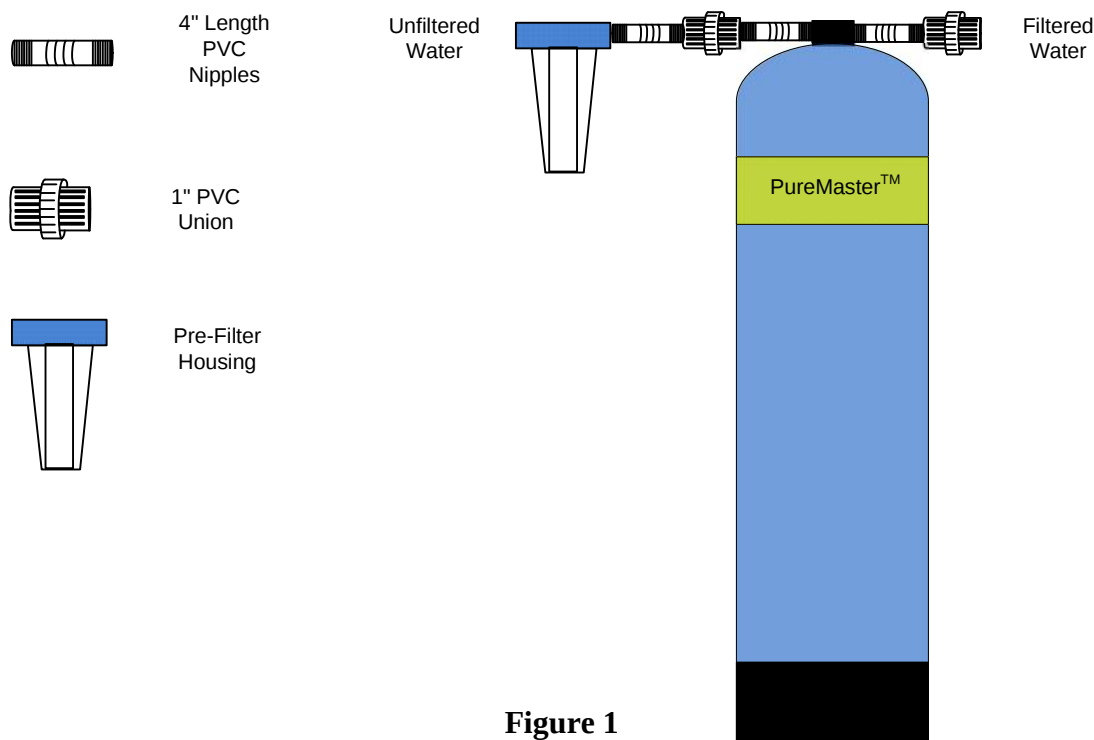

Figure 1
2. Complete the outlet connections (Figure 1). Slowly turn on a nearby faucet and flush the unit for an additional 10 to 15 minutes to purge any existing air in the tank.
3. Shut off water supply. Complete all inlet/outlet connections (Figure 1). Slowly turn on a nearby faucet and flush the unit for an additional 10 to 15 minutes to purge any existing air in the tank.